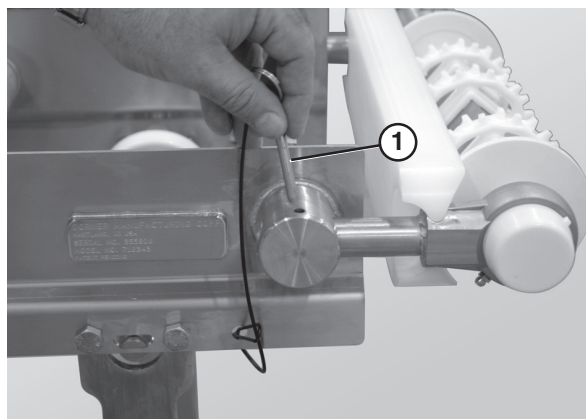

Figure 8
3. Insert the pull pins (Figure 8, item 1).